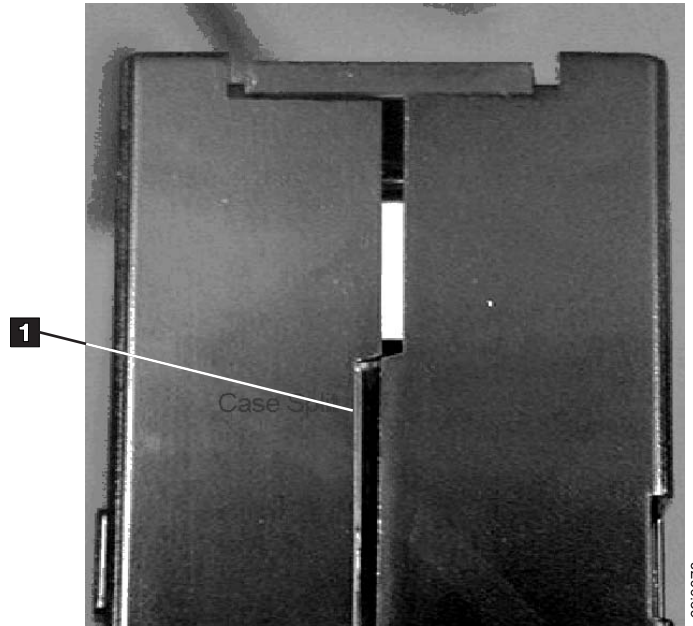
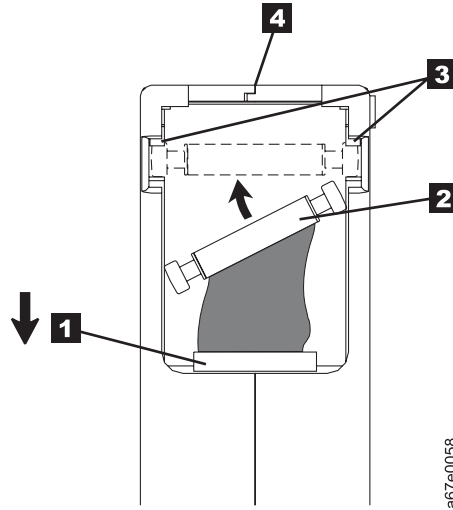

Figure 9-4. Checking for gaps in the seams of a cartridge
Figure 9-8. Placing the dislodged leader pin into the correct position
- Inspect the rear of the cartridge (the part that loads first into the tape load compartment) and ensure that there are no gaps in the seam of the cartridge case (see **1** in Figure 9-4 and **4** in Figure 9-8 on page 9-14). If there are gaps in the seam (see Figure 9-4), the leader pin may be dislodged. Go to Repairing a Cartridge.
- Check that the leader pin is properly seated (see **2** in Figure 9-8 on page 9-14).
To reposition the leader pin, refer to Figure 9-8 and perform the steps below.